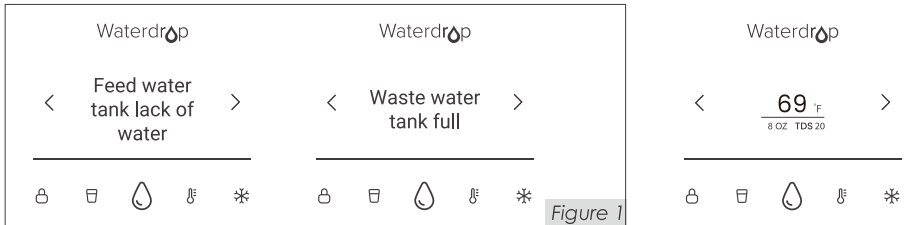

Figure 1
Step 4: When the indicator "🔄" lights up, and the interface shows as indicated, it means the dispenser is due for a water change. Please empty the concentrated water, refill the feed water tank with tap water, and return the tank into the dispenser. (Figure 1)